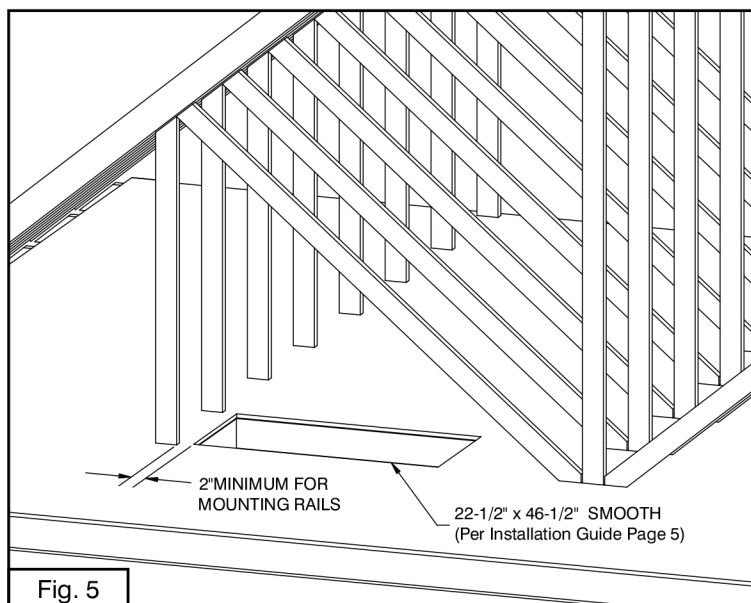

Fig. 5
Please note when planning the location of the lift opening that the lift opening must be at least 2" away from any vertical truss member to provide space for the mounting rails as shown in Fig. 5 on page 3.
**4-1:** The lift opening must be located between pre-fab trusses on 24" centers, because no truss member must be cut (Fig. 5). Also, you must allow at least 2" between the ends of the lift opening and any vertical truss members (Fig. 5). This space is required because the mounting rails are wider than the lift opening and must rest on the truss joists to support the lift (see Fig. 2). Other than the 2" minimum clearance (Fig. 5), the lift opening should be constructed according to the Versa Lift Installation Guide pages 4-9.